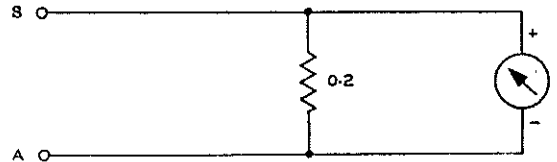

FIG. 11
15. **Switch in Posn. 10 (0-500 mA. D.C.).**—The connexions for this test are shown in Fig. 11. The shunt resistance is 0.2 ohms: this is approximately 1/10th of that used for the 0-50 mA. range and increases the maximum reading by ten times to 500 mA.